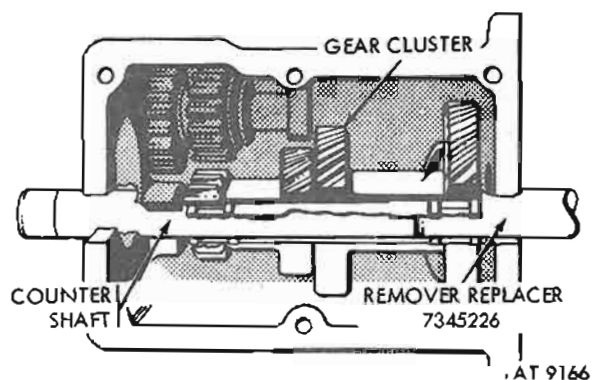

Figure 8-33. Countershaft gear cluster and countershaft.
- f. Using insert remover-replacer (7345226), force countershaft from transmission case, leaving remover-replacer in countershaft gear cluster to hold bearings in position (fig. 8-33).